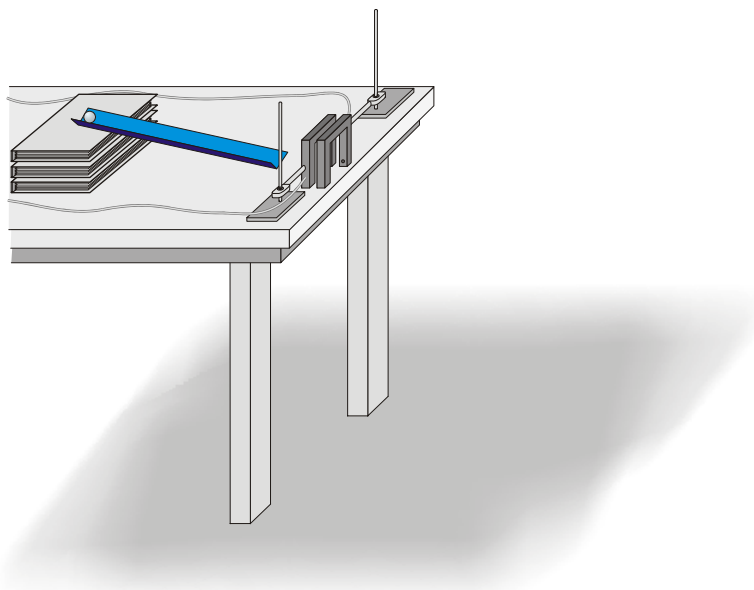

Figure 1
1. Set up a low ramp on a table so that a ball can roll down the ramp, across a short section of table, and off the table edge as shown in Figure 1.